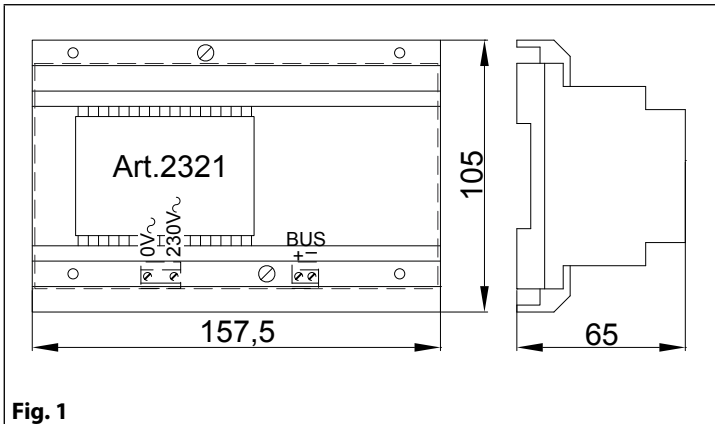

Fig. 1
- In order to install the videophone, it is necessary to remove the cover, which contains all the electronics, from the base: firstly disconnect the handset from the videophone (by removing its plug from the videophone) then insert a 5.5mm flat screw driver into the clip (A) then rotate clockwise until you listen a "CLICK!". Repeat the same operation with the other clip as shown in Fig. 1.